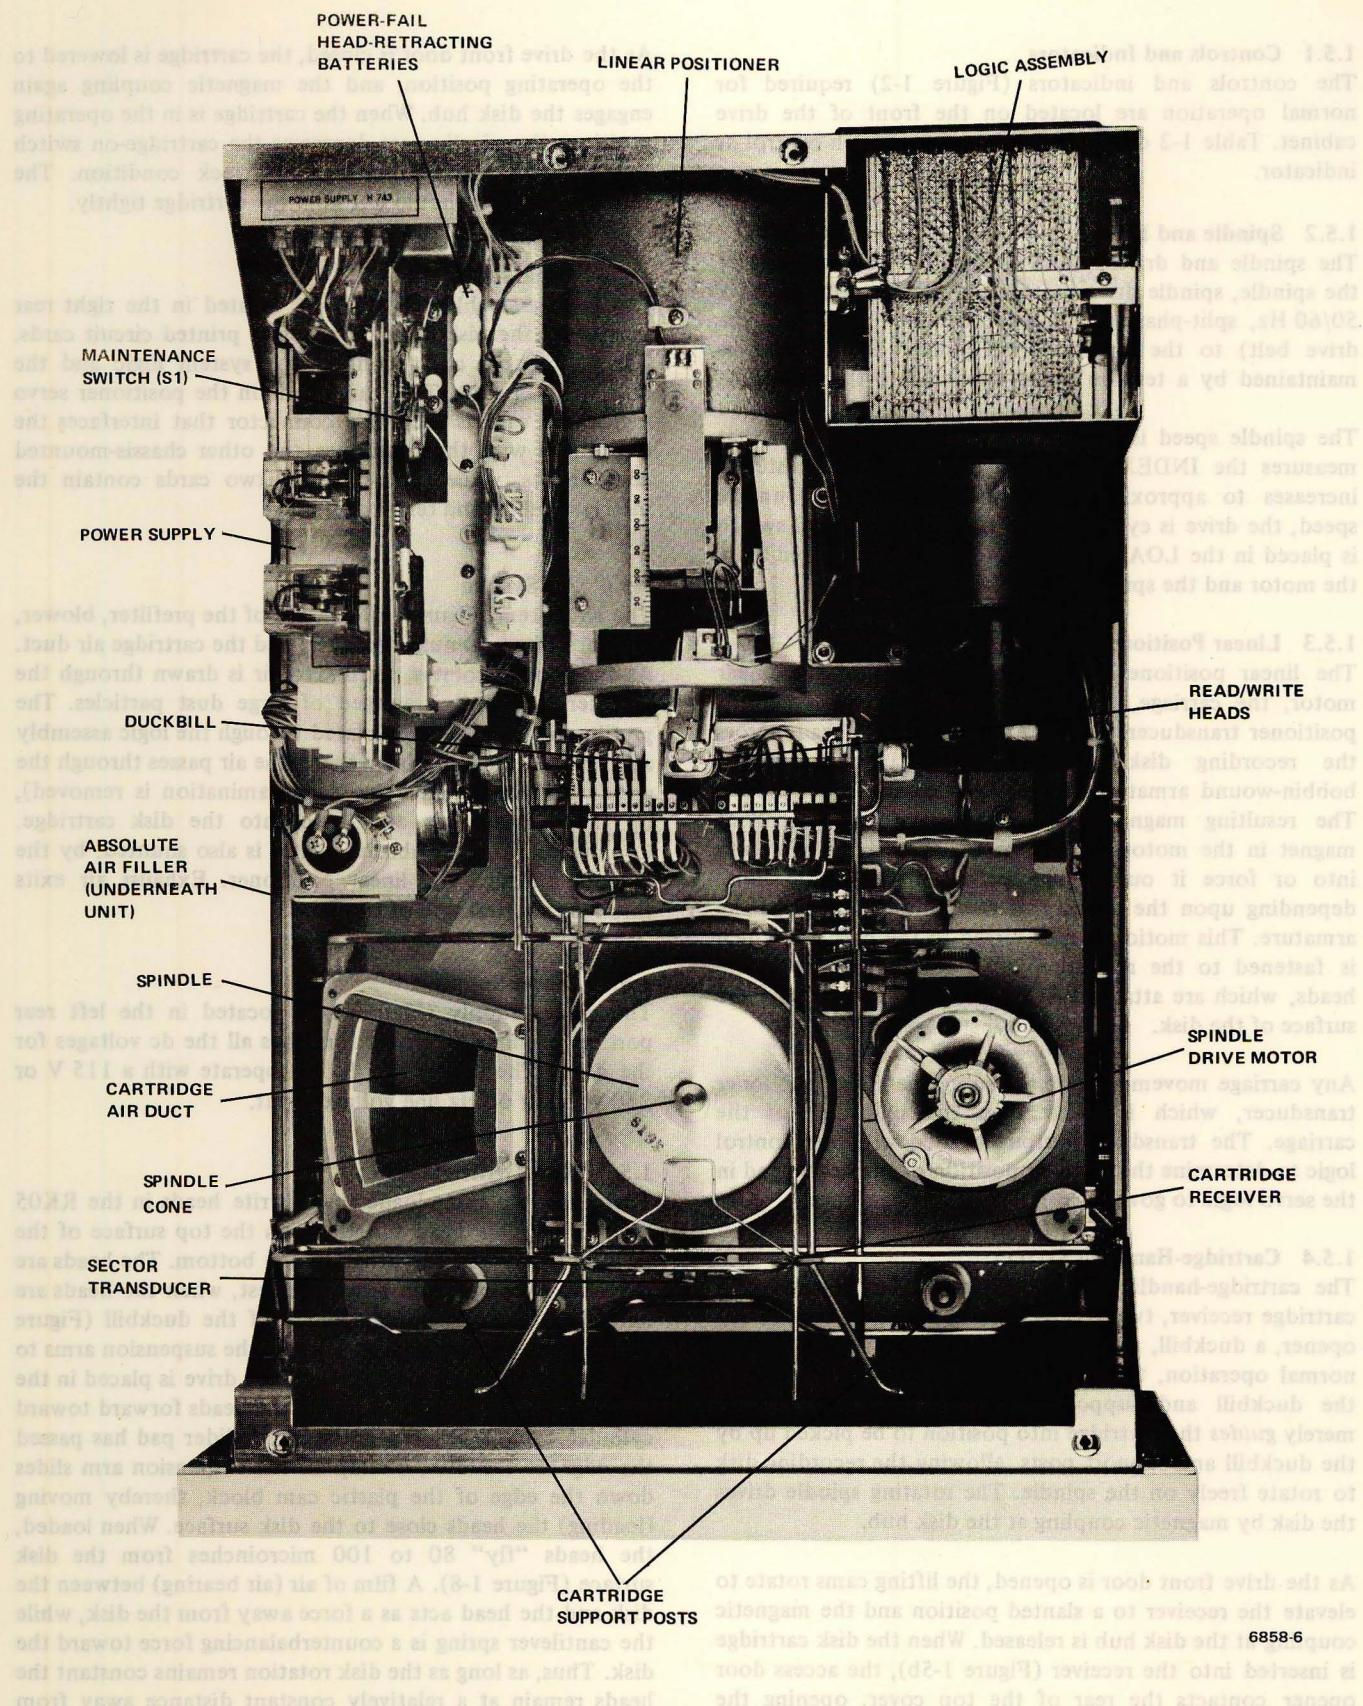

Figure 1-1 Location of Major Assemblies and Systems
Figure 1-1 illustrates the locations, and the subsequent paragraphs describe the functions of each of the major assemblies and systems.
The linear positioner (Figure 1-1) consists of the linear motor, the carriage, the read/write heads, and the linear positioner transducer. To move the read/write heads across the recording disk, dc current is applied to the bobbin-wound armature (Figure 1-4) of the linear motor. The resulting magnetic field reacts with a permanent magnet in the motor housing to either pull the armature into or force it out of the permanent magnetic field, depending upon the polarity of the current applied to the armature. This motion is transferred to the carriage, which is fastened to the armature. As a result, the read/write heads, which are attached to the carriage, move across the surface of the disk.
The logic assembly (Figure 1-1), located in the right rear portion of the disk drive, holds eight printed circuit cards. Three of these cards contain the system logic and the read/write circuits. Two cards contain the positioner servo logic. One card is the cable connector that interfaces the electronics with the positioner and other chassis-mounted components, while the remaining two cards contain the interface cables and terminators.
The power supply (Figure 1-1), located in the left rear portion of the disk drive, furnishes all the dc voltages for the drive. The power supply can operate with a 115 V or 230 V, 50 or 60 Hz line voltage input.
5. Remove the drive top cover and remove the mounting screw and shipping strap from the linear positioner (Figure 2-1b). Turn the shipping strap upward and replace it on the linear positioner. Pull the heads forward as far as possible without going off the ramp (Figure 1-7) and confirm that the batteries (Figure 1-1) return the heads to the home position.